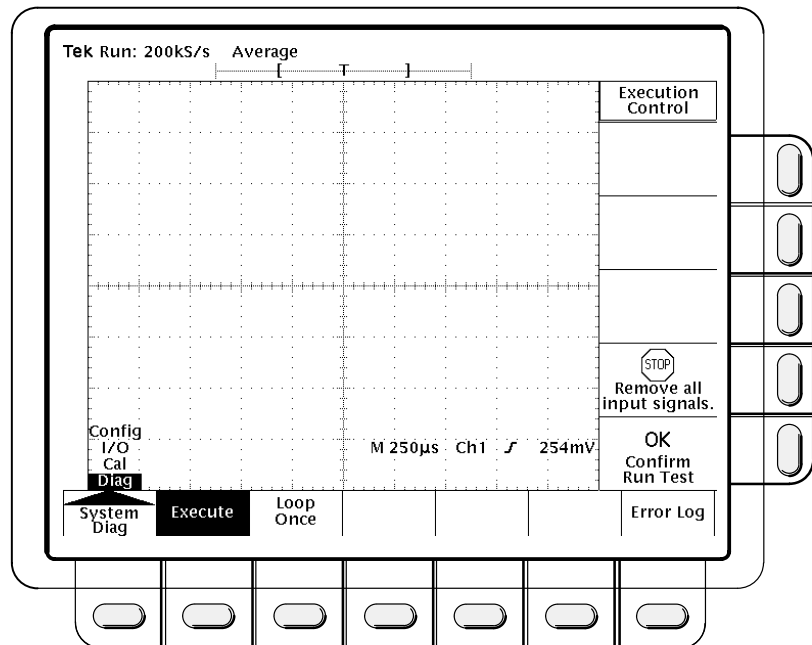

Figure 8-14: The Diagnostics Menu
3. Repeatedly press the main menu button **System** until **Diag** is highlighted in the pop-up menu. This calls up the diagnostics menu, shown in Figure 8-14.